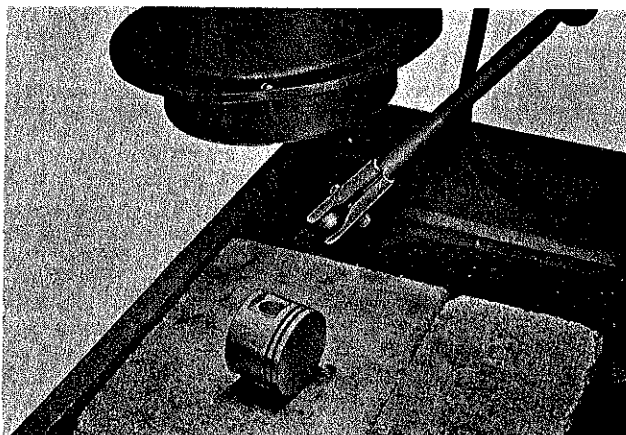

Figure X-19. Heating a piston under a heat lamp prior to installation of the piston pin bearings.
1. Heat the piston under a heat lamp or in an oven to approximately 200°F. (95°C.). (Figure X-19)